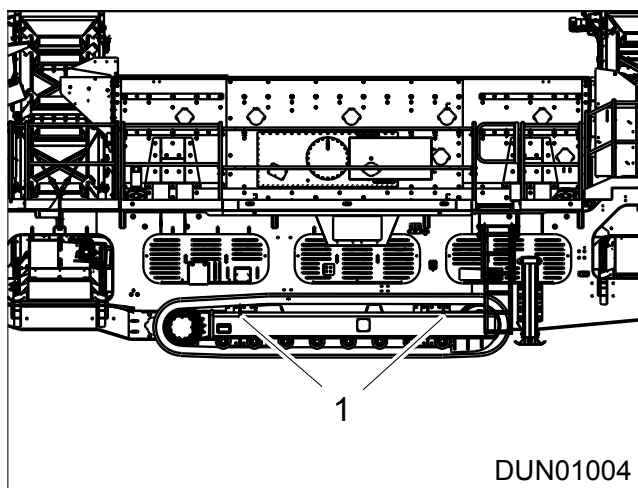

Figure 5.27 - Tie down points underneath
The machine can also be secured in place using the tie down points on the side of the machine, ref item 1, Figure 5.27. These points are located in the same place on both sides of the machine.
(2) Prior to Haulage